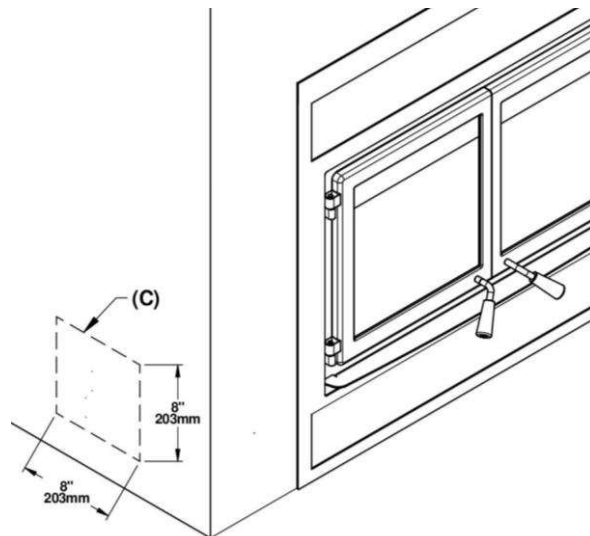

Figure 9 : Grille location
1. Drill holes in the finishing material following dimensions on Figure 9.